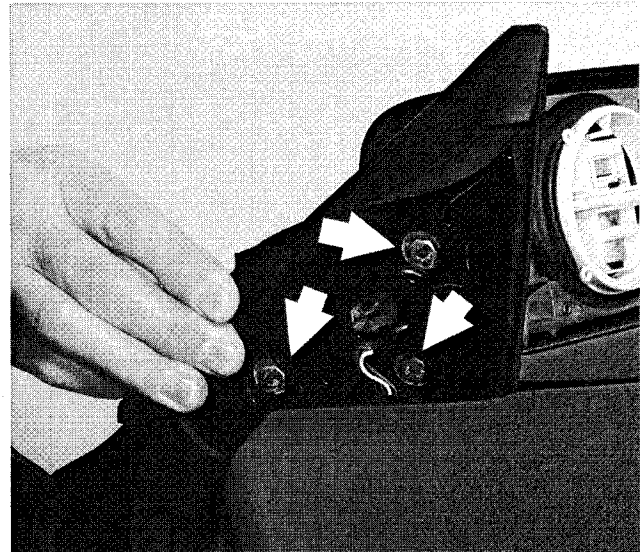

Fig. 5. Mirror mounting bolts (arrows). Two-door body style shown.
2. Separate harness connector. Support mirror and remove mirror mounting bolts. Lift mirror off door. See Fig. 5.